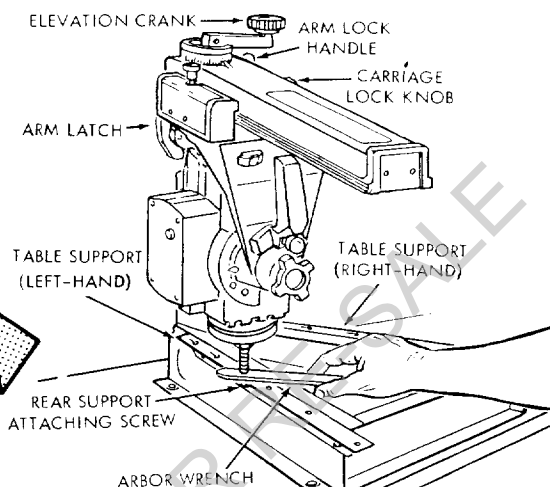

**Figure 15**
- j. Move the carriage out near the end of radial arm and move the arm until the end of motor shaft is over the table support above the front support attaching screw. (See figure 15) Tap the table support upward or downward until the arbor wrench slides with the same "feel", as in the previous setting of left-hand support.